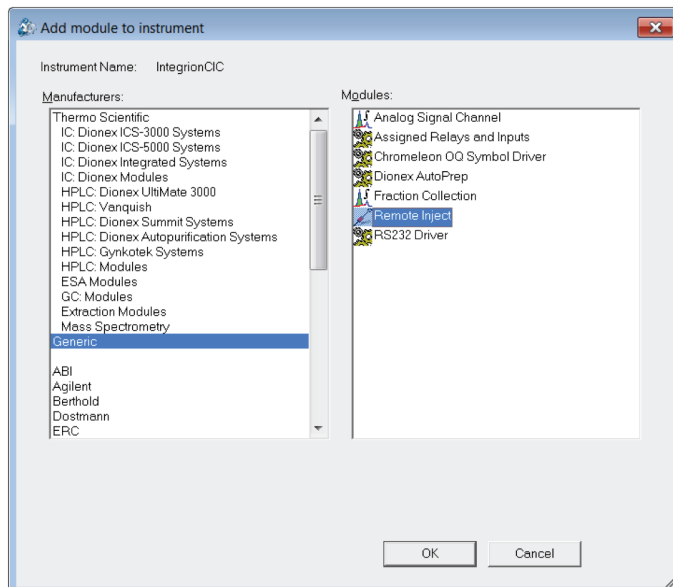

Figure 6. Adding the Remote Inject Module to the instrument configuration.
1. Select *Add a Module, Generic, and Remote Inject* (Figure 6). The default device name is InjectValve and needs to be renamed (for example: InjectValve_CIC).